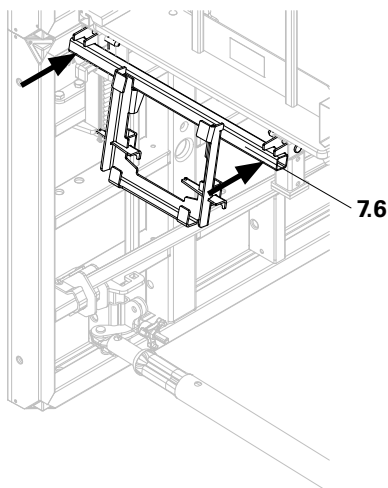

Fig. A9.03b
1. Insert Ladder Adaptor 120 (7.6) into the platform profile and secure with pins. (Fig. A9.03b)